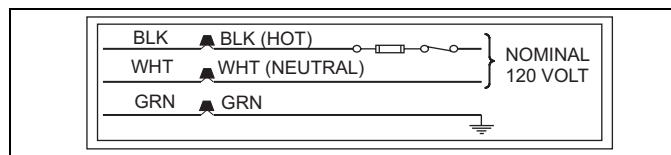

FIGURE 16: Line Wiring Connections
3. The furnace's control system requires correct polarity of the power supply and a proper ground connection. Refer to Figure 16.